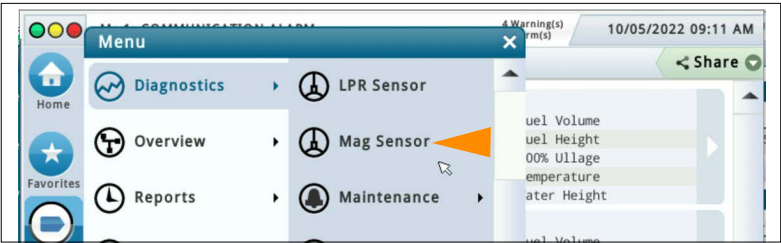
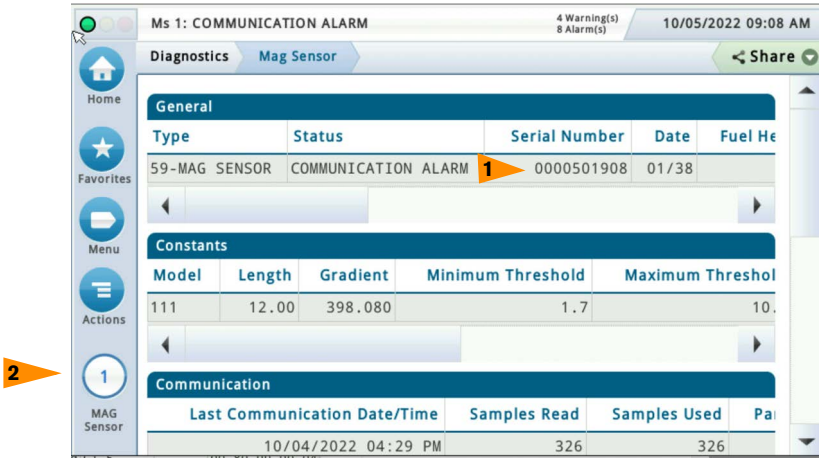
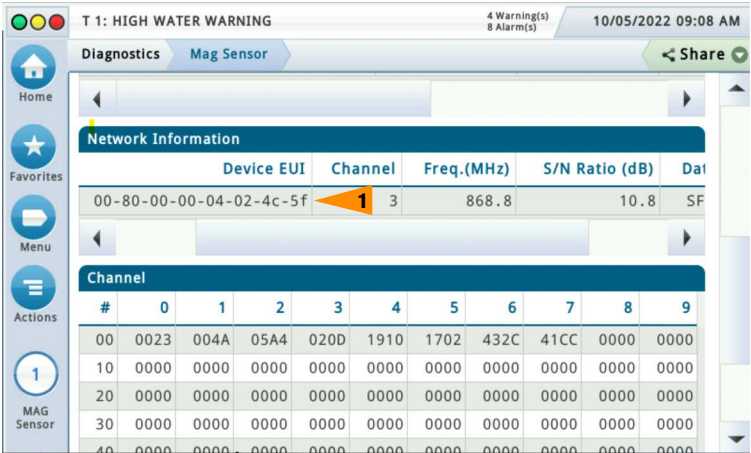

Figure 52. Accessing Mag Sensor Diagnostics Screen
Figure 53. Example Mag Sensor Diagnostics Screen – Page 1
Figure 54. Example Mag Sensor Diagnostics Screen – Page 2
1. Select Menu>Diagnostics>Mag Sensor (see Figure 52) to access the Mag Sensor Diagnostics Screen (see Figure 53 and Figure 54). Select the Mag Sensor to view information from (Item 2, Figure 53)
2. Scroll down the Mag Sensor Diagnostics screen to view all of the device information fields. Note the serial number for the device (ref. Item 1, Figure 53), which maps to an Associated Device (ref. Item 2, Figure 48).
3. The Transmitter Device EUI (item 1) in the Network Information tab in Figure 54 below is found on the product information label on either the side (ref. Figure 3) or interior of the Transmitter.